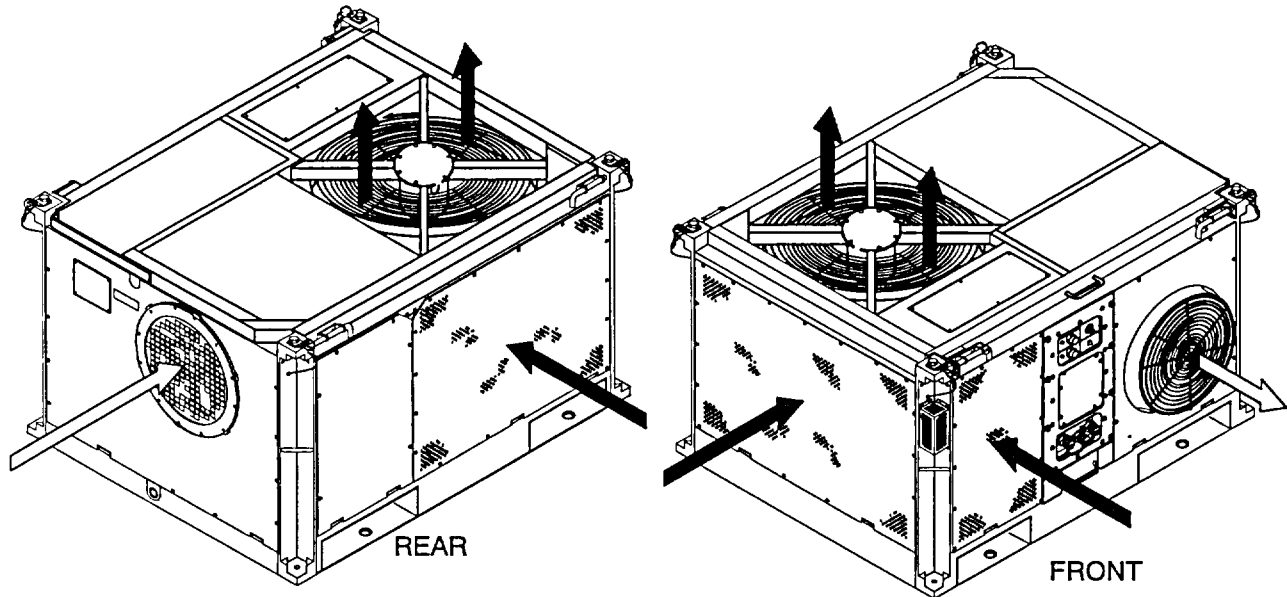

Figure 1-5. Air Circulation System
1.16 **AIR CIRCULATION.** See figure 1-5.